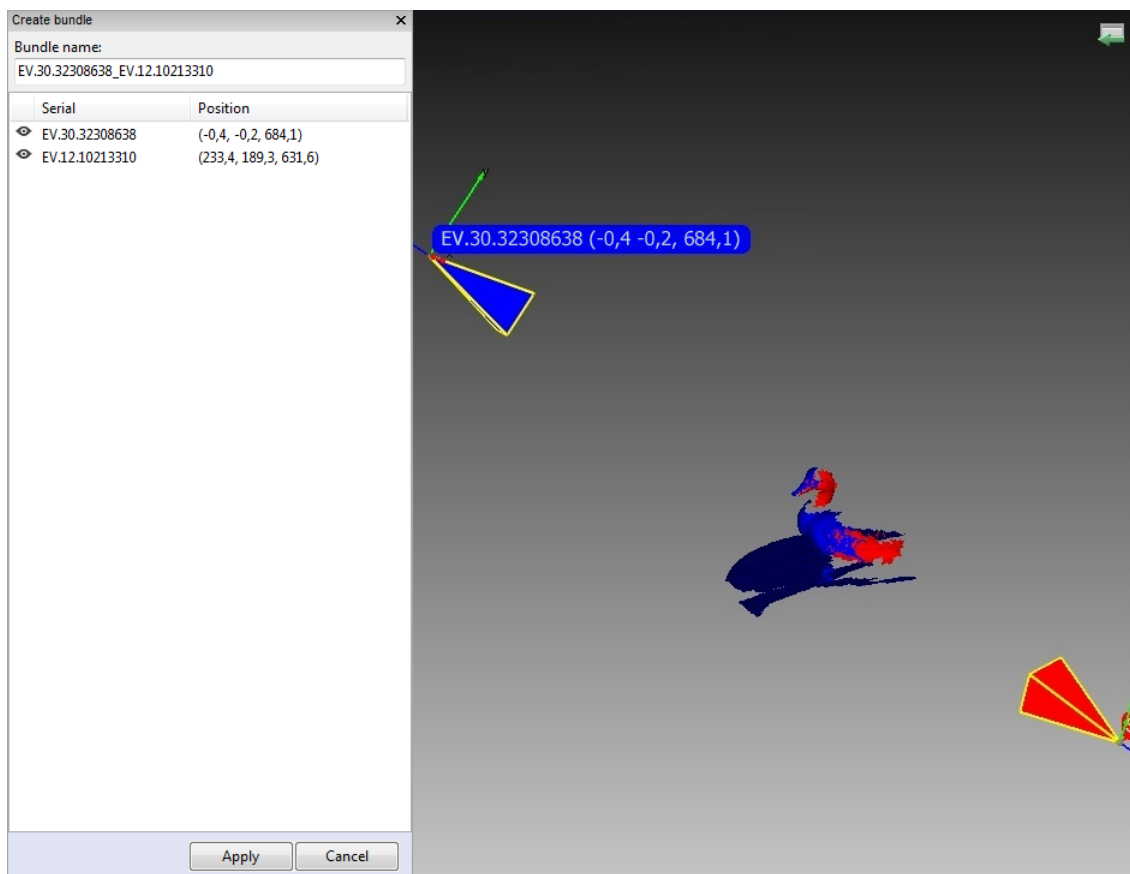

Figure 112: Bundle-creation window.
5. From the menu, select *File* → *Create bundle*. A warning message will appear if you forget to align the scans. Otherwise, the bundle-creation panel will appear (see Figure 112). The *3D View* window will show the selected scans, the position and viewing direction of the scanners (by means of an appropriately colored pyramid), the device ID, and the scanner coordinates. It will display a list of connected devices and corresponding information.